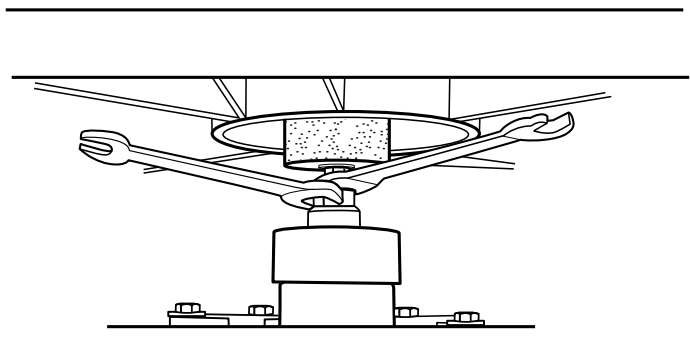

FIGURE 4
- Use a second 17mm wrench, placed over the retaining nut on the spindle, see Figure 4, to tighten the spindle no more than another 1/2 turn.